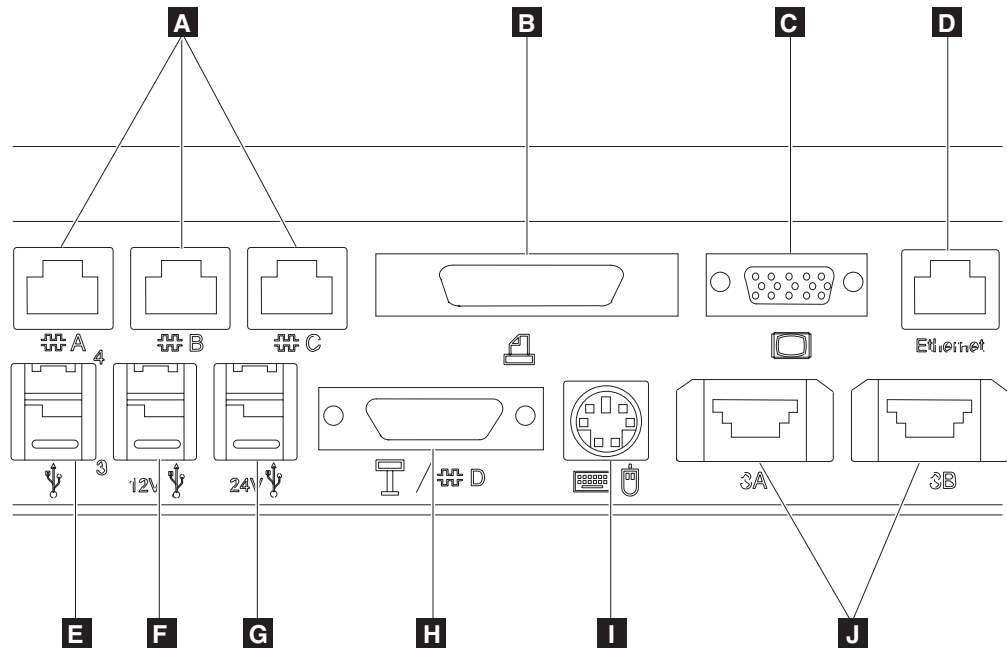
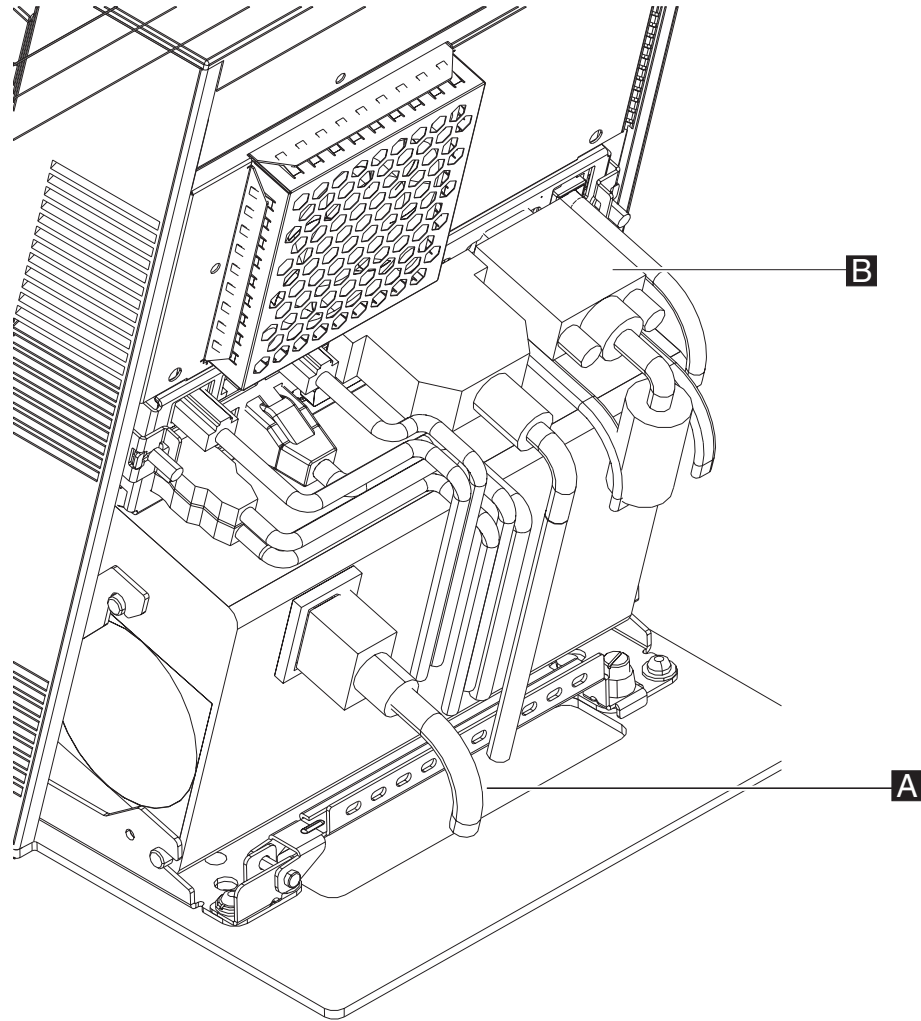

Figure 40. Rear connector panel
Figure 41. Cable routing
This section explains how to connect cables to the rear connector panel (shown in Figure 40 on page 60). Use cable ties if desired. Connect the cables in the lowest row first, then work upwards connecting any additional cables.
Attention: All cables in the rear should be routed to the right of the AC power cable, when facing the rear of the machine, as shown in Figure 41 on page 61.
3. Connect the cables as shown in as shown in Figure 40 on page 60. Signal cables must be routed to the right of the AC power cable, as shown in Figure 41.
Attention: the rear cover will not close properly if signal cables are routed to the left of the AC power cable. See Figure 41 for routing.